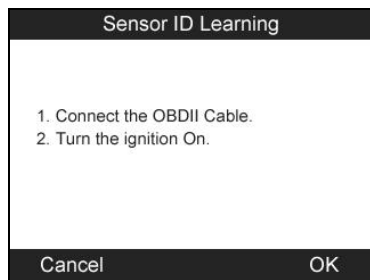

Figure 3.25
- e) After the sensors are successfully activated, follow the instruction screen to connect the tool with the vehicle's DLC again through the OBDII Cable and **turn the ignition on**, then press the **Y** button to continue, or press the **N** button to exit. (Figure 3.25)